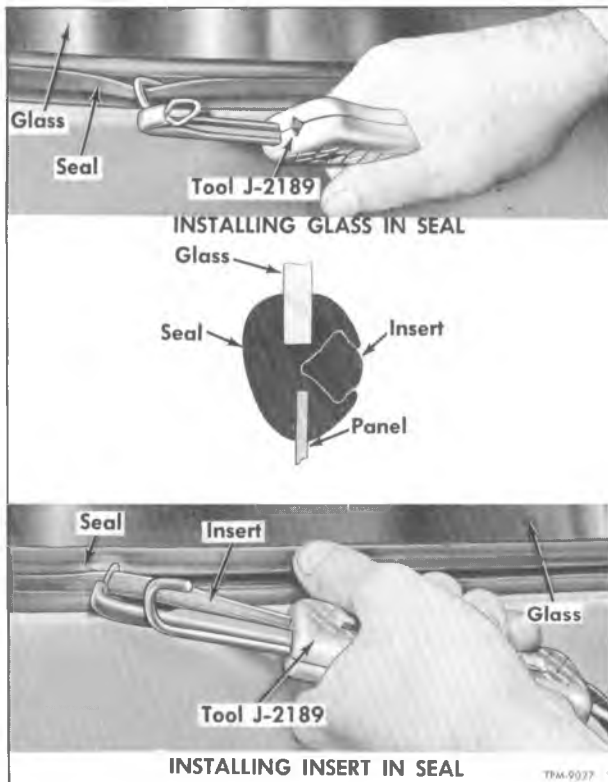

Figure 1—Installing Insert-Retained Glass
Windshield glass is retained in cab opening by a molded rubber weatherstrip with an insert-type rubber seal as illustrated in figure 1. A single windshield glass is used in the conventional cab models whereas two glass sections are used on steel tilt and "P" models.
REMOVAL (Fig. 1)
## INSTALLATION (Fig. 1)
1. Reposition rubber seal on cab opening flange. Raise new glass to outside of seal; then with hook end of installer tool (J-2189) in glass groove of seal as shown in figure 1, move tool around glass to force outer lip of seal over edge of glass.
2. Thread end of rubber insert through handle and loop of installer tool (fig. 1). Push tool loop and end of insert into groove of seal. Feed in rubber insert, while proceeding around window. Use a hitching movement of tool to avoid elongating insert. If new insert is being used, cut off insert allowing sufficient overlap for a tight joint; then butt into groove.
rubber seal and seal insert (fig. 1). No sealing compound or cement is used.
4. Position glass to seal and insert hook end of installer tool (fig. 1) into seal groove. Move tool around glass to force outer lip of seal over glass.
5. Thread end of rubber insert through handle and loop of installer (fig. 1). Push tool loop and end of insert into groove at bottom center of window. Feed in the rubber insert while proceeding around window. Use a hitching movement to avoid elongation of insert.